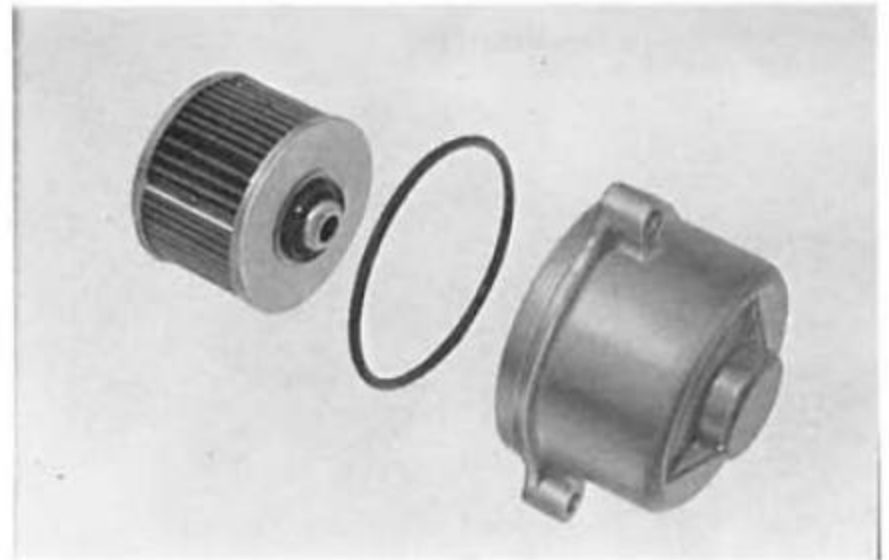

Fig. 1K-5
7. Dismantle the filter element O ring and filter element from within the filter cover (Fig. 1K-5).